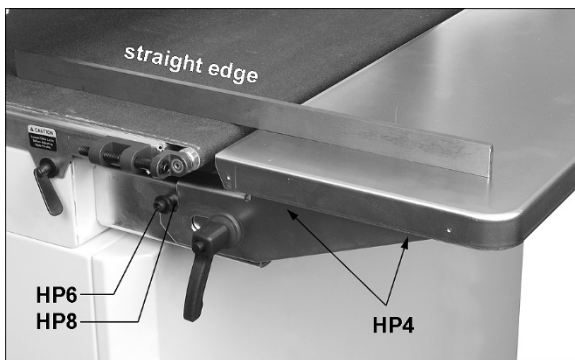

Figure 6-4: extension table alignment
7. Lower drum to securely hold straight-edge in place. See Figure 6-4. Raise infeed/outfeed table until table surface is slightly below conveyor belt surface. Tighten screws on that side.